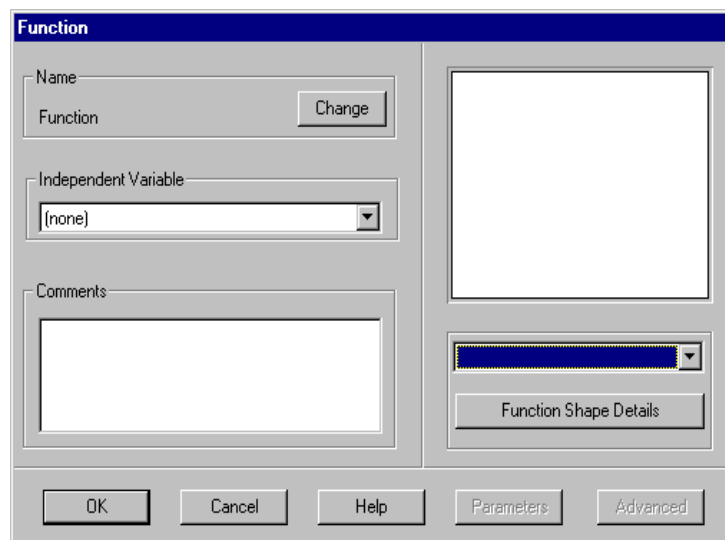

Figure 1.7 Function Selection Window
2. Select the **'Function'** button in the **'Add Component As'** panel to obtain the **'Function'** selection window (figure 1.7).
The **'Function'** selection window (figure 1.7) is used to set the stage transfer function and its associated variables. DYMEX uses this window as a standard throughout the Model Builder. Under the white screen is a scroll button which gives access to the library of mathematical functions contained in DYMEX. When a function is selected, its shape is illustrated on the screen. The **'Parameters'** button (in the row of buttons at the bottom) is used to set default and limiting values of the parameters for the function variables. A **'Comments'** edit box can be used to record pertinent information such as a reference to the source of the data used to estimate parameter values.